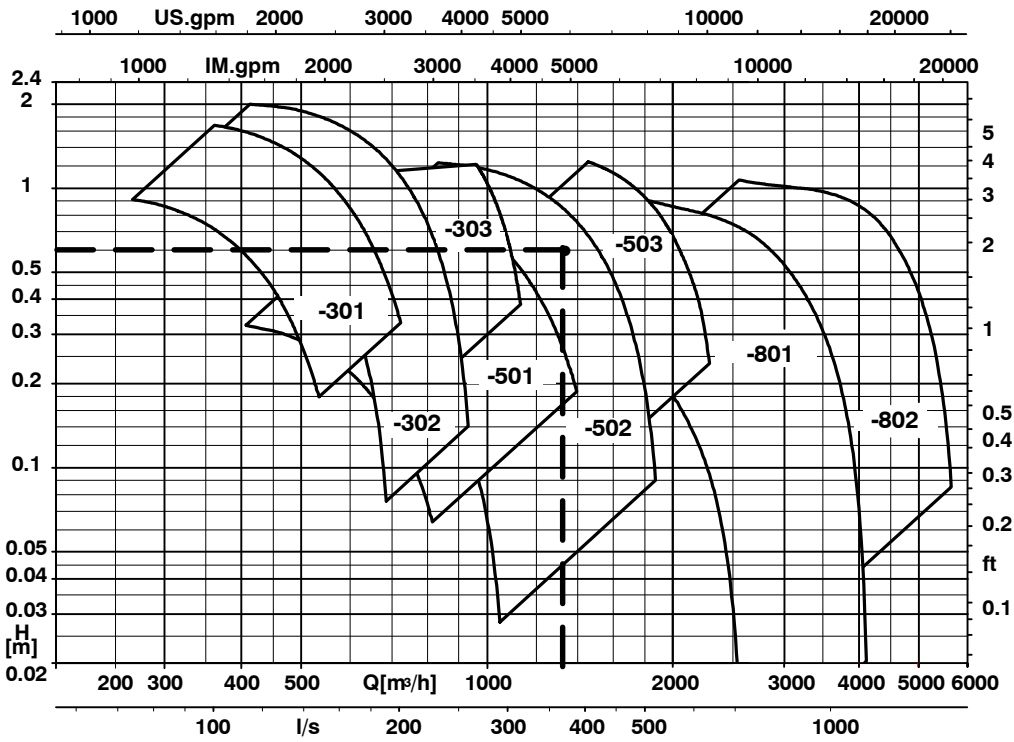

Fig. 1: Preliminary selection hydraulic diameter
1 Preliminary selection **Amaline with DN 500** (see fig. 1)
④ Preliminary pump selection (see fig. 1)